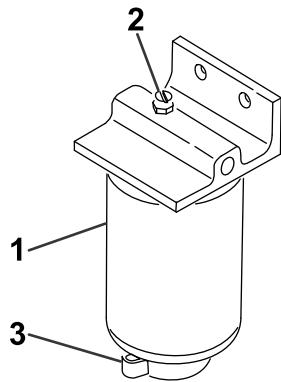

Figure 55
3. Loosen the drain valve on the bottom of the filter canister (Figure 55).
2. Clean the area where the filter canister mounts (Figure 55).